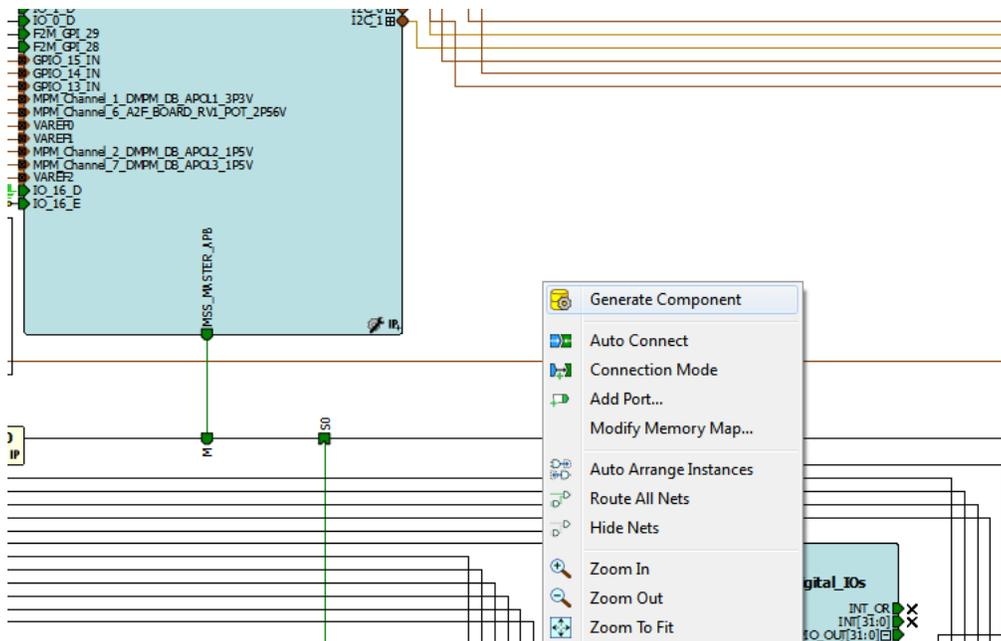

Figure 44 • Selecting Generate Component
8. Save the design, right-click the SmartDesign canvas, and generate the component as shown in Figure 44.
- Save the design, right-click the SmartDesign canvas, and generate the component as shown in Figure 44 on page 29.